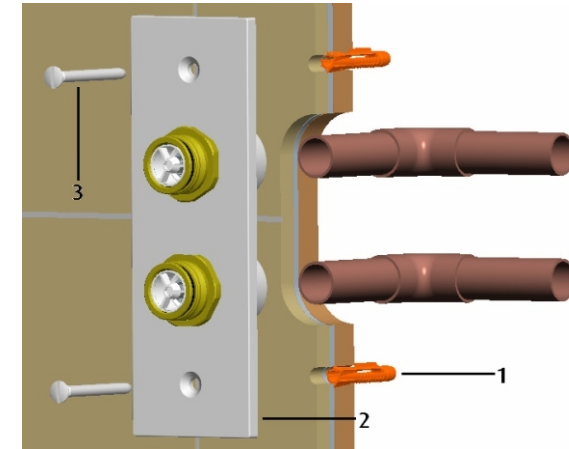
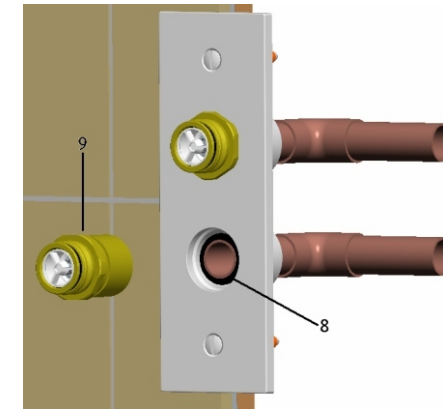

Fig. 4
Fig. 5
Carefully slide back plate (2) over pipe work. Between 15 – 23mm of the pipe needs to locate within the back plate to ensure a seal (measured from the back). If in doubt remove brass inserts (9) by unscrewing anti-clockwise, if both o-rings (6 & 8) are located around the pipe then all is fine (see Fig.4, Page 8). Carefully screw brass insert back into back plate (see Fig.5, Page 8).
4.2.1.6 Secure back plate to wall using screws (3).
4.2.2.5 Remove plastering shroud. Secure backplate to wall using screws (3) (see Fig 4 overleaf).